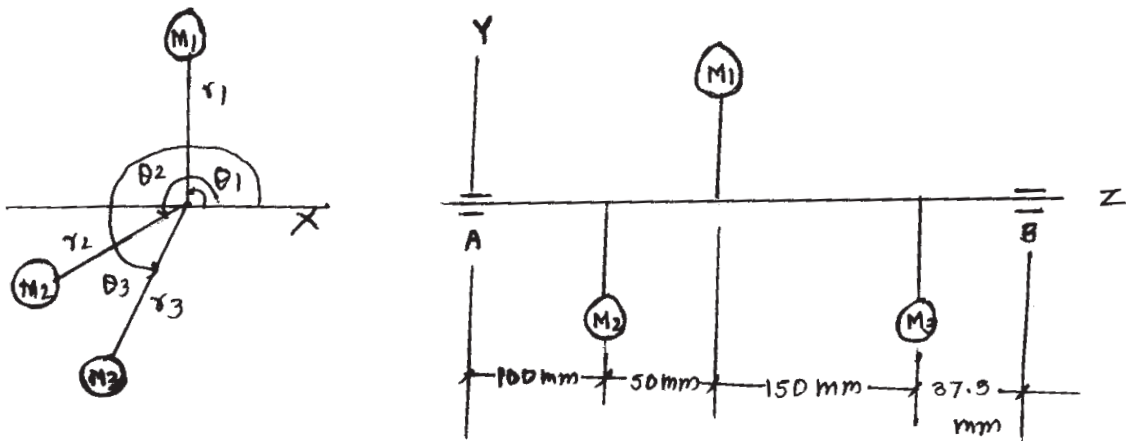

Fig 1. Q NO. 1 (C)
- Q1) a) A shaft rotating with three masses M_1 , M_2 and M_3 as shown in fig.1. It is proposed to attach masses in plane M_2 and M_3 at a radius of 50 mm, SD as to completely balance the system. Find out the masses to be attached and their angular location with respect to the X axis as shown in fig. $M_1 = 9\text{kg}$, $M_2 = 10.5\text{kg}$, $M_3 = 4\text{kg}$, $\theta_1 = 90^\circ$, $\theta_2 = 210^\circ$, $\theta_3 = 255^\circ$, $r_1 = 125\text{ mm}$, $r_2 = 75\text{ mm}$, $r_3 = 150\text{ mm}$. [10]